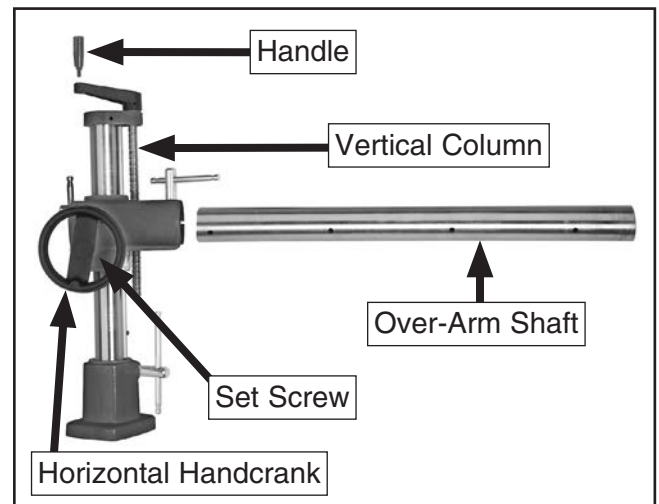

Figure 9. Over-arm shaft installation.
4. Loosen hex nut and set screw under horizontal handcrank, then remove it from vertical column (see **Figure 9**).
5. Feed over-arm shaft into sleeve on vertical column (see **Figure 9**). Install handcrank and engage gear wheel with over-arm shaft teeth. Replace set screw and tighten hex nut.
6. Install handle on vertical column to adjust over-arm shaft height (see **Figure 9**).